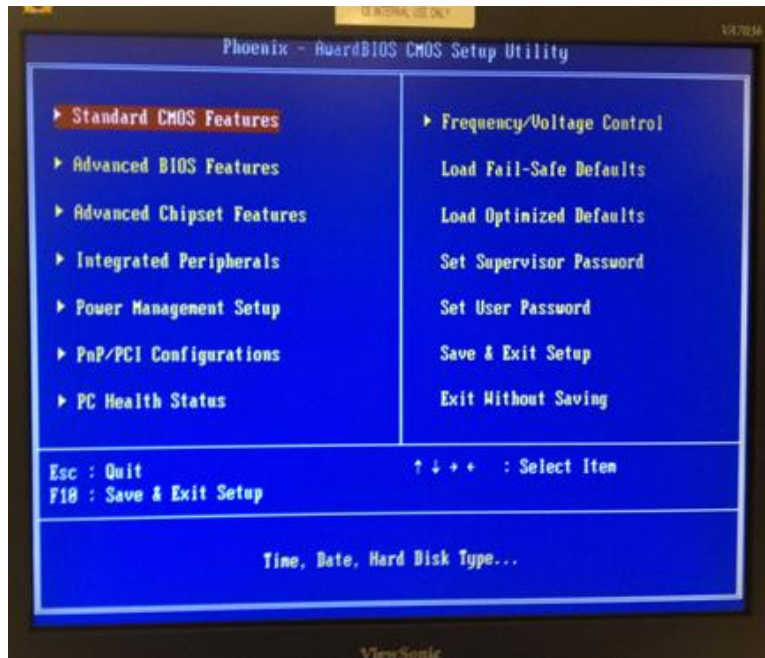

FIGURE 20: Initial BIOS Setup Screen
14. The BIOS setup screen should appear (please see Figure 20)